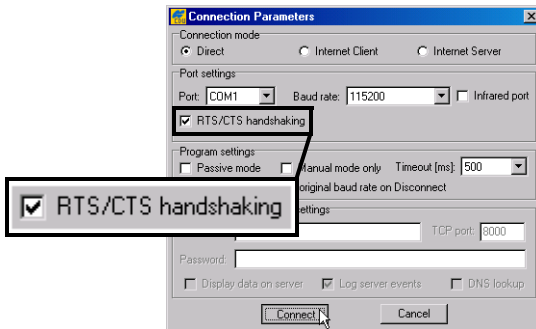

Figure 5-9. Connection Parameters – RTS/CTS Handshaking
2. On the *Connection Parameters* dialog box, enable *RTS/CTS handshaking* (Figure 5-9).